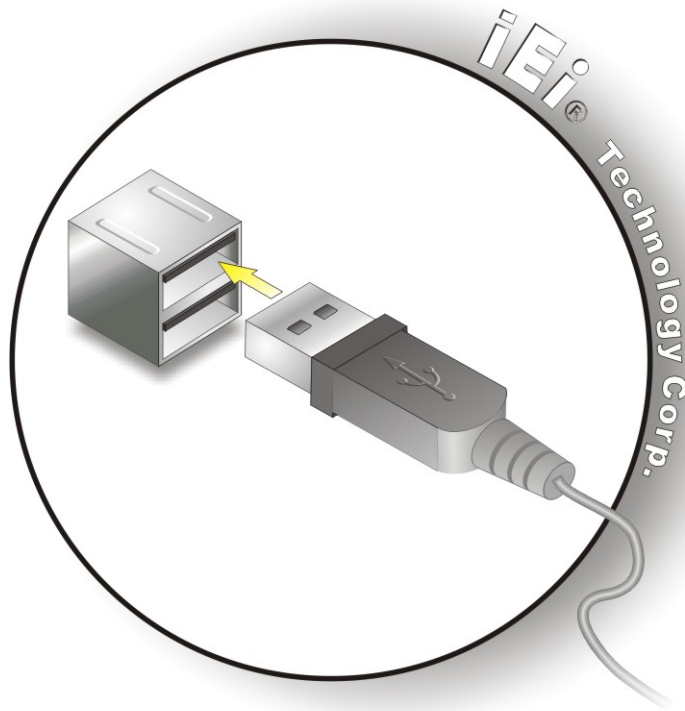

Figure 4-19: USB Connector
Step 2: Insert a USB Series "A" plug. Insert the USB Series "A" plug of a device into the USB Series "A" receptacle on the external peripheral interface. See Figure 4-19.